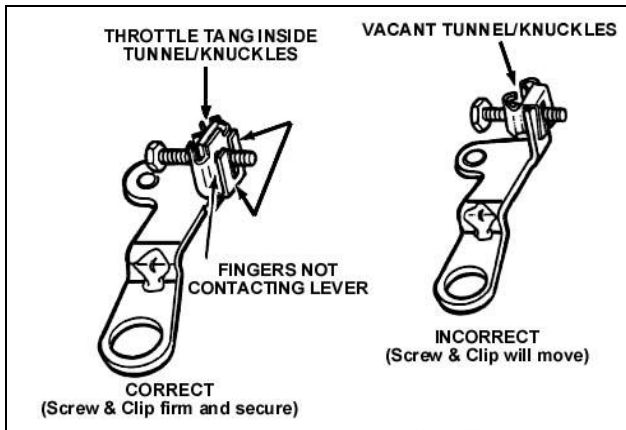

Figure 3—Ford applications
2. Insert the transmission kickdown screw with the black retaining clip on the transmission kickdown lever (Figure 2). This assembly must be installed according to the detailed drawing (Figure 3).